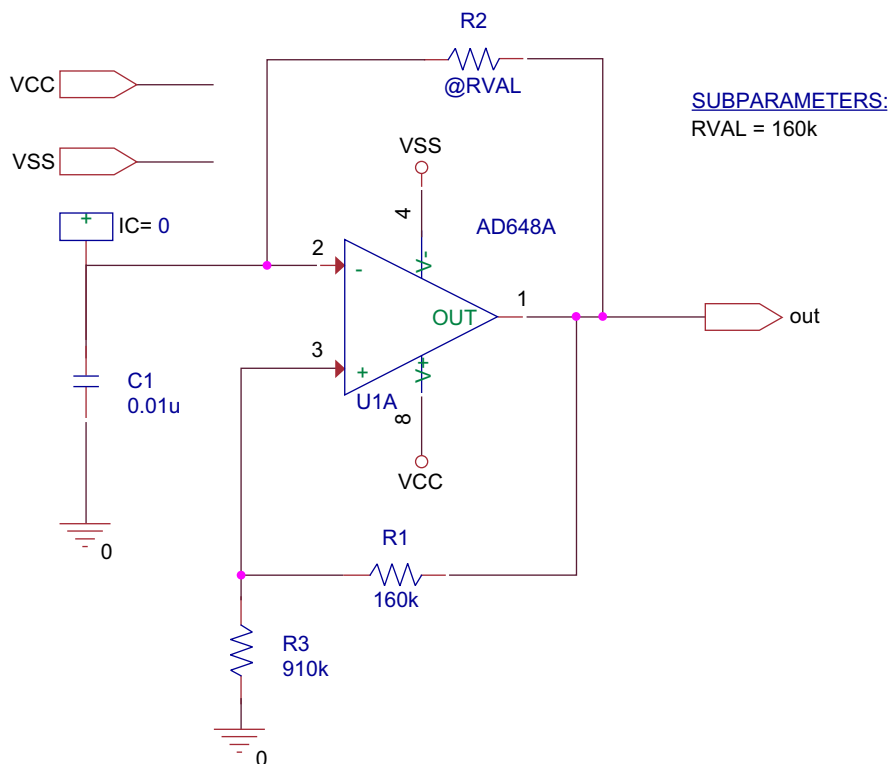

FIGURE 20.34
1. Modify the osc125Hz circuit as shown in Figure 20.34. The **subparam** part can be found in the **special** library.
3. In the schematic, replace the value of R2 with @RVAL as shown in Figure 20.34.